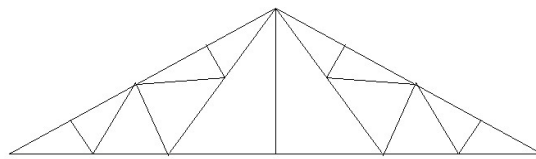

Figure-1
1. A fink roof truss is proposed to be constructed at Chennai. The pitch of the roof is $\frac{1}{4}$ and the span is 12m. The trusses are spaced at 4.5m c/c. use G.I sheeting. The height of the roof above the ground level is 10m. The configuration of the girder is given in figure-1. Assume that ISMC75@71.4kg/m is used as purlins and placed on the nodal point. Determine the dead, live and wind loads acting on the roof .
2. A fink type tubular truss is proposed to be constructed at chennai. The pitch of the roof is 1/5 and the span is 20m. The trusses are spaced at 4.5m c/c. use G.I sheeting. The height of the roof above the ground level is 10m. The configuration of the girder is given in figure-1. Design a tubular purlin for the truss and also design the top and bottom chord of a tubular truss subjected a maximum factored load as given in table-1.